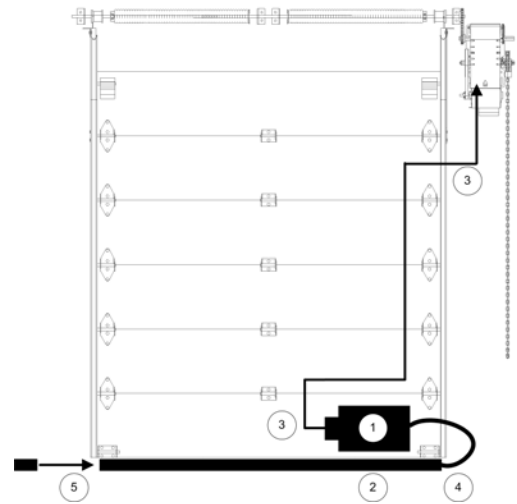

Figure 22 - Reversing Edge
1. Place the air switch in position, refer to Figure 22.
1. Place the junction box in position, refer to Figure 22.